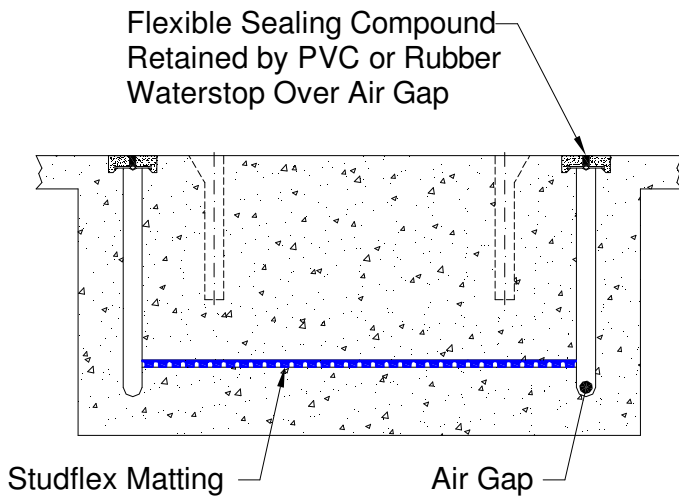
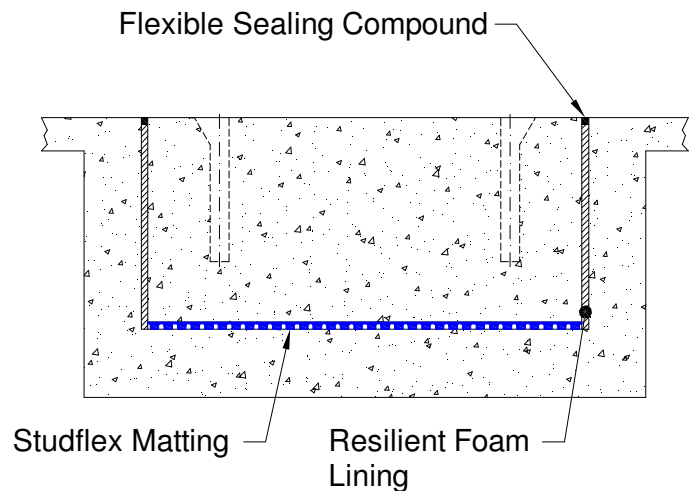
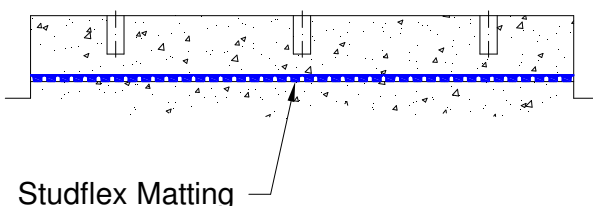
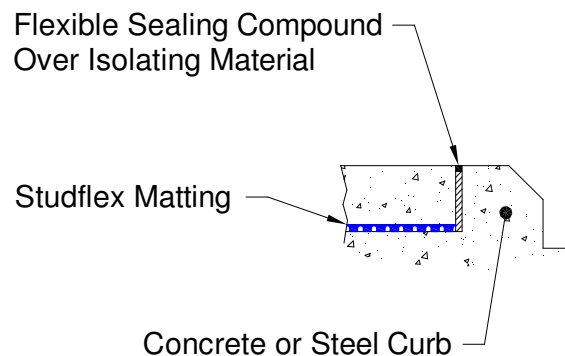

Figure 1a
Figure 1b
Figure 2a
Figure 2b
- Figure 1a shows a concrete block isolated from a lower concrete raft by Studflex Matting. The sides and ends of the block are isolated from retaining walls by an air gap. Where necessary, the air gap must be sealed as shown by figure 1a. Alternatively a resilient foam lining can be used as detailed in Figure 1b. A concrete base isolated by Studflex isolators is illustrated by figure 2a. If required a concrete or steel angle curb can be constructed around the isolated base as shown by figure 2b.